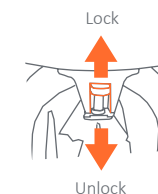

Fig. 12b
- Push the button on the wheel upward to engage the locks and push downward to disengage the locking device (Fig. 12b).